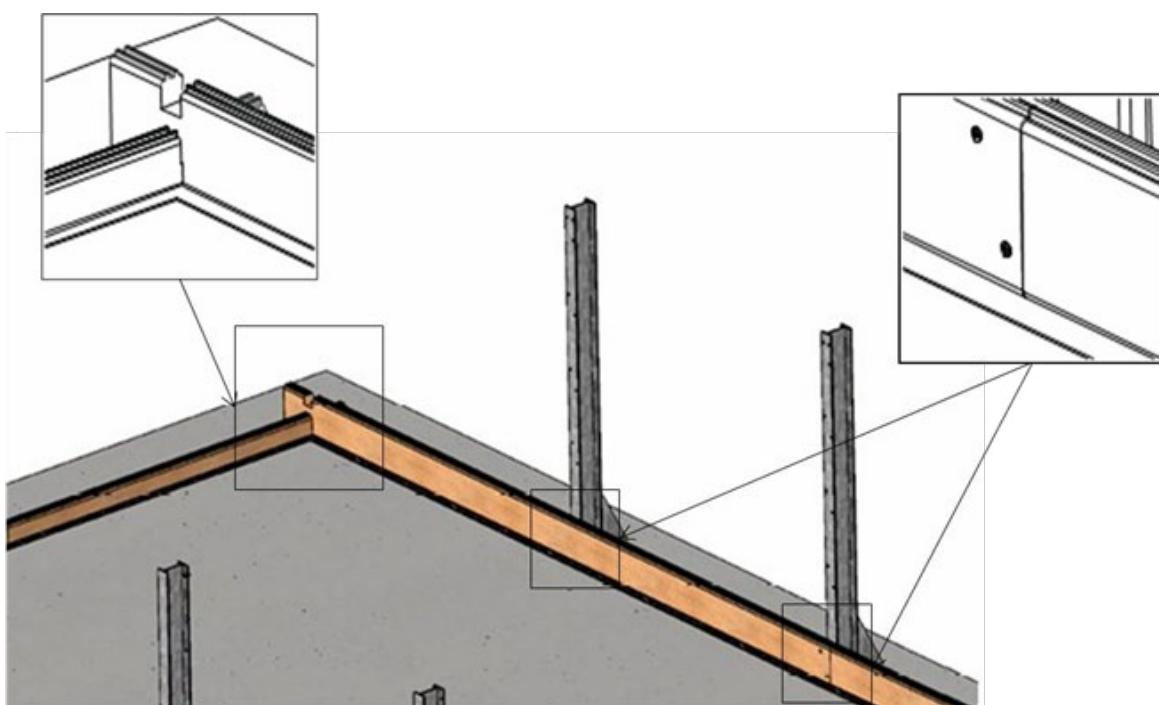

Figure 10 – Screwing the slats together
- screw them together as shown in *Figure 10* using 2 screws per slat pair, and on both sides, each comprising 10 slats rows of slats, that is a total of 80 countersunk  $5 \times 40$  A4 SS torx screws threaded over 25 mm (bag C) .